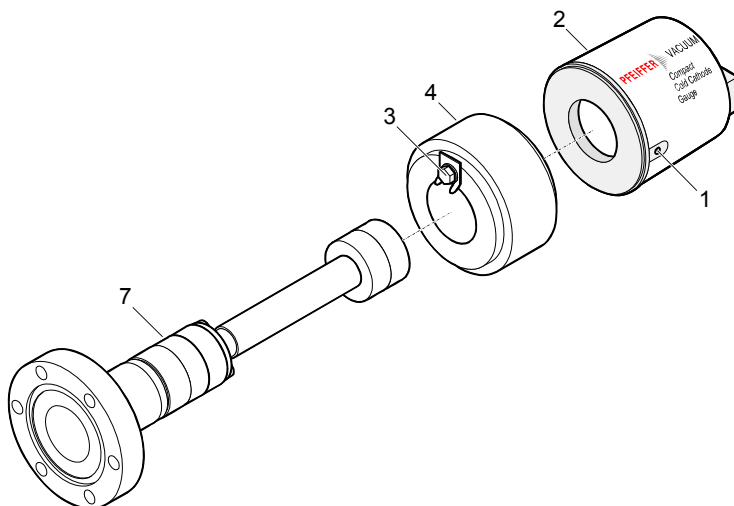

Figure 4a
- ❶ Remove the gauge from the vacuum system (→ 22).
- ❷ Unfasten the hexagon socket set screw (1) on the side of the electronics unit (2) (→ Figure 4a).
- ❸ Remove the electronics unit.